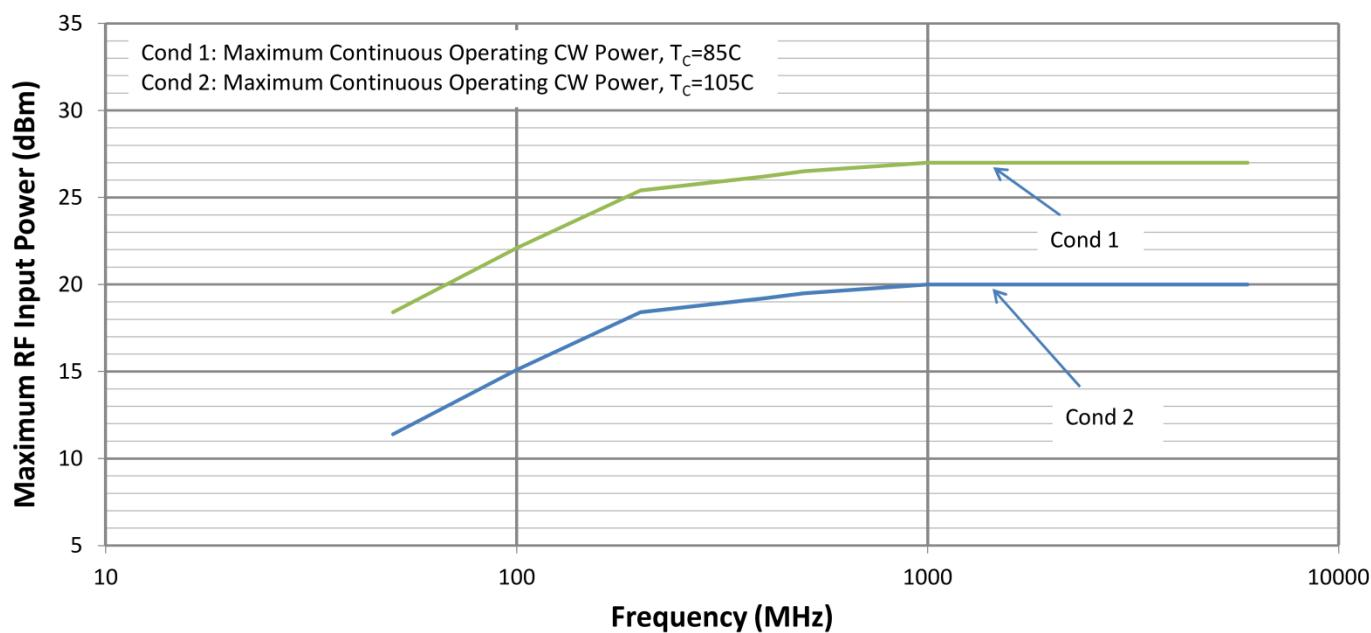

FIGURE 1: MAXIMUM RF INPUT POWER VS. RF FREQUENCY
- 3 – Refer to the Maximum **Operating** RF Input Power vs. RF Frequency curves in Figure 1.
along with Figure 1 for the maximum RF input power vs. RF frequency.